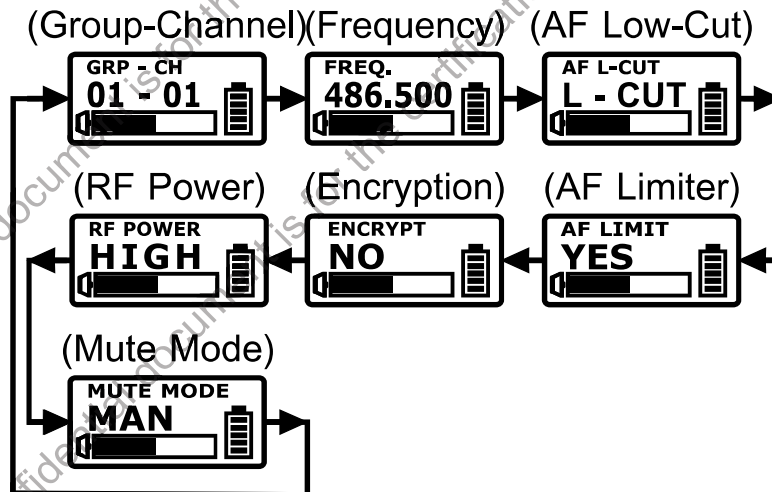

Fig. 8
- ①⑥ Functions
- ①⑦ Parameters
- ①⑧ Battery Status
- ①⑨ Audio Signal Level Bar
2. ACT-800H LCD. Fig. 8: